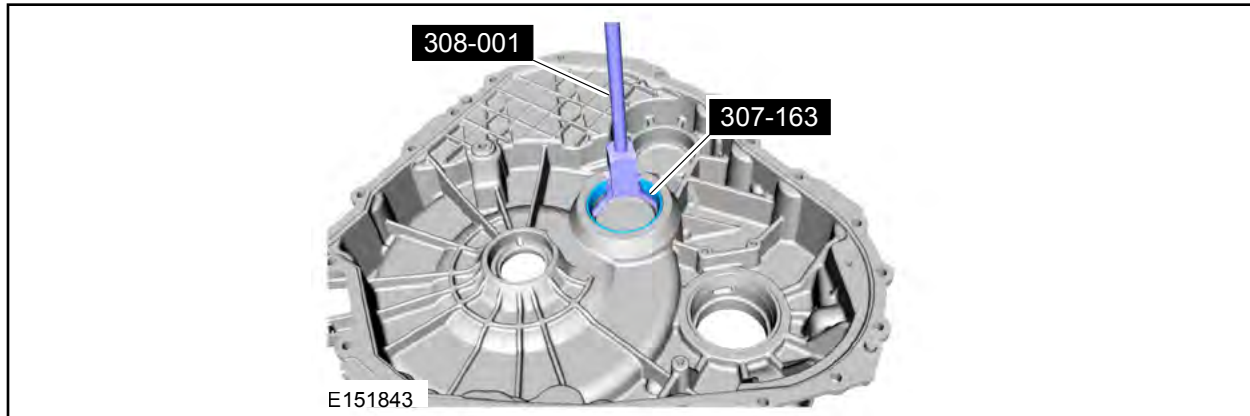

FIGURE 9
6. Remove and discard the damper housing side transfer gear bearing cup. See Figure 9.